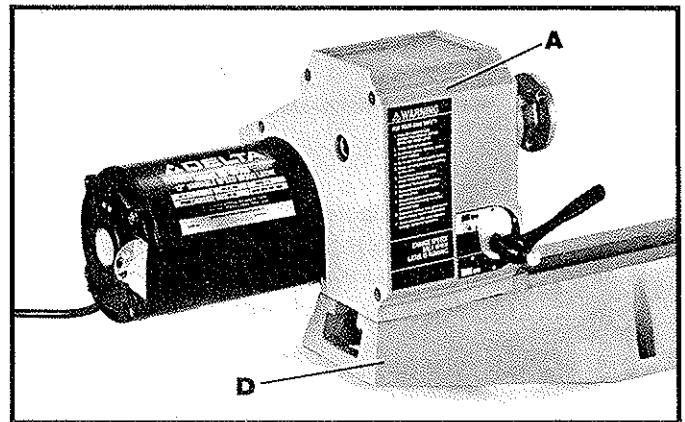

Fig. 6
5. Slide headstock (A) Fig. 6, to the left end of lathe bed (D), as shown, and tighten headstock locking screw that was loosened in **STEP 4**.